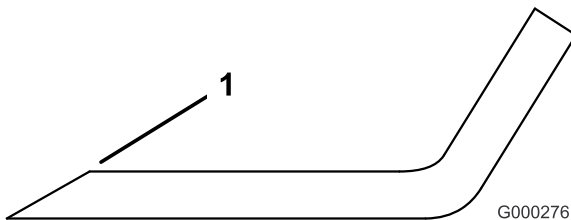

Figure 101
- Examine the cutting edges of all of the blades. Sharpen the cutting edges if they are dull or nicked. Sharpen only the top of the cutting edge and maintain the original cutting angle to make sure of sharpness (Figure 101). The blade will remain balanced if the same amount of metal is removed from both cutting edges.
If the blade is allowed to wear, a slot will form between the sail and flat part of the blade (Figure 101). Eventually a piece of the blade may break off and be thrown from under the housing, possibly resulting in serious injury to you or bystanders.